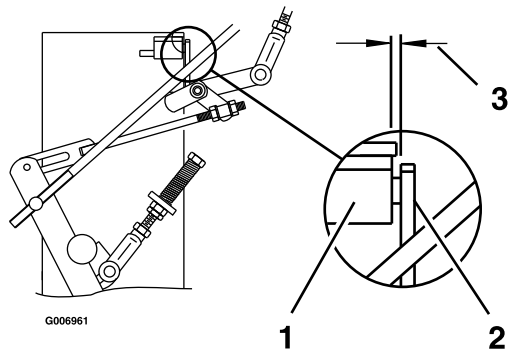

Figure 15
2. Move the speed control lever (located on the console) to the full forward position and check the orientation of the tabs on the ends of the speed control crank (see Figure 15). These tabs should be pointing straight down at the 6 o'clock position or slightly forward.
Adjust the threaded yoke at the bottom of the speed control linkage (see Figure 15) until the tabs are positioned correctly.
3. Pull the speed control lever back to neutral. Check that the neutral safety switch actuating tab has depressed the plunger of the switch so that there is about 5/16 inch (.79 cm) between the tab and the switch (see Figure 15). If necessary, move the switch fore and aft.